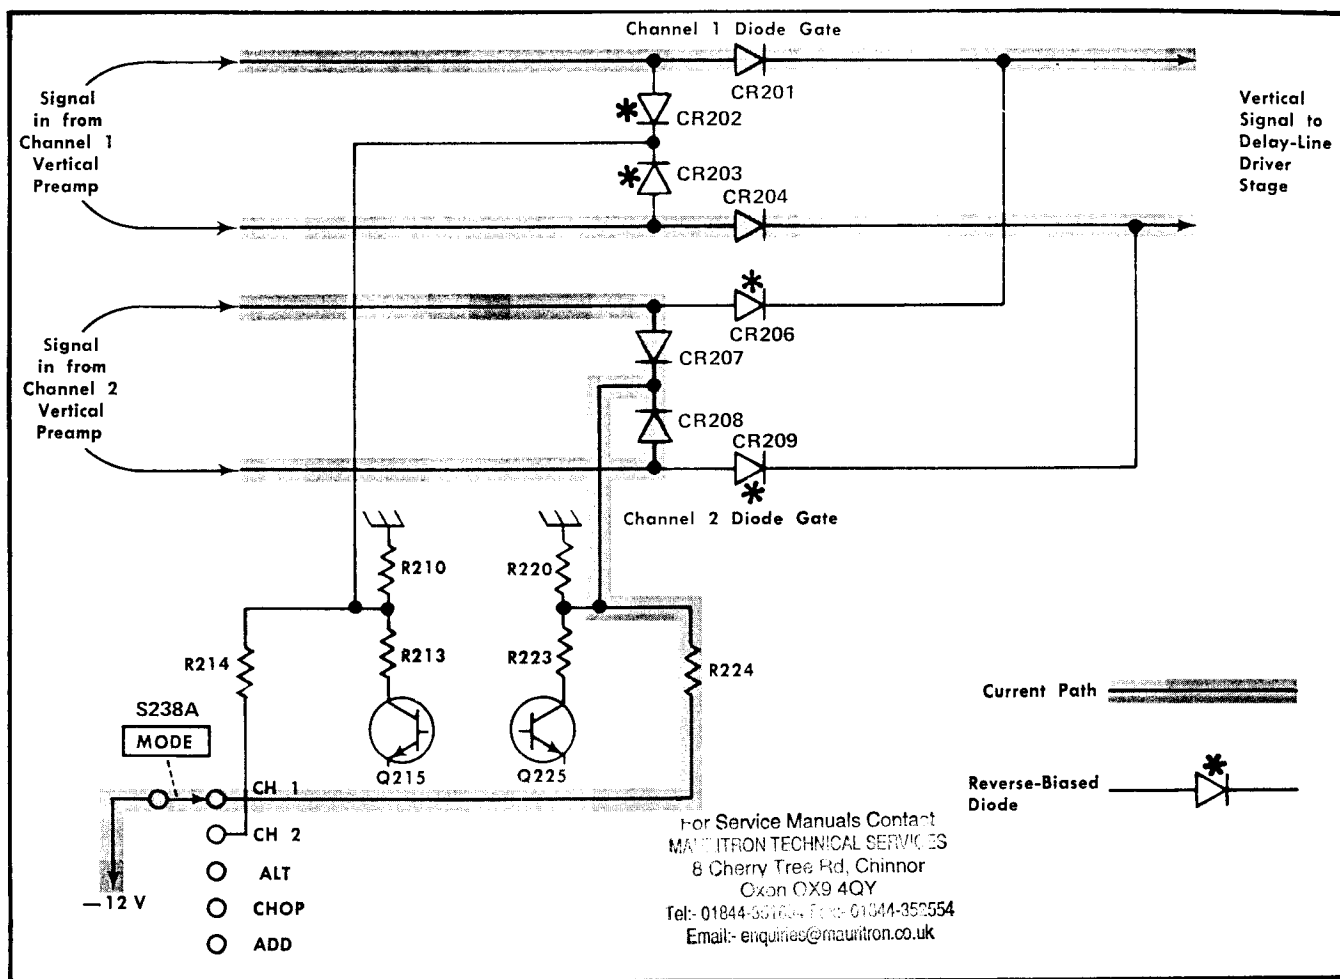

Fig. 3-5. Effect of Diode Gates on signal path (simplified path). Conditions shown for CH 1 position of the MODE switch.
**CH 1.** In the CH 1 position of the MODE switch,  $-12$  volts is applied to the junction of CR207-CR208 in the Channel 2 Diode Gate through the HORIZ DISPLAY switch S1001A, MODE switch S238A and R224 (see simplified diagram in Fig. 3-5). This forward biases CR207-CR208 and reverse biases CR206-CR209 since the input to the Delay-Line Driver stage is at about  $-3$  volts. CR206-CR209 block the Channel 2 signal so it cannot pass to the Delay-Line Driver stage. At the same time in the Channel 1 Diode Gate, CR202-CR203 are connected to ground through R210. CR202-CR203 are held reverse biased while CR201-CR204 are forward biased. Therefore, the Channel 1 signal can pass to the Delay-Line Driver stage.